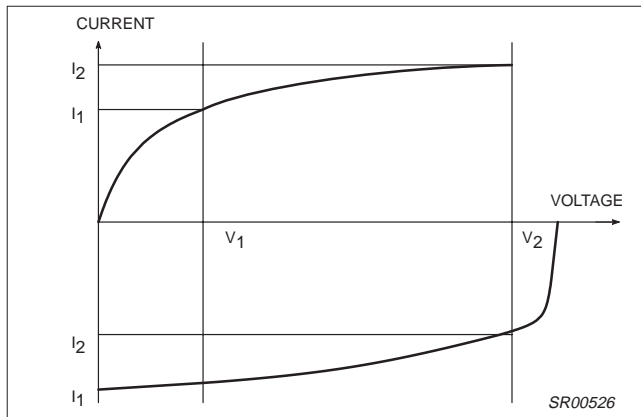

Figure 3. Relative Output Current Variation
- The relative output current variation is defined thus: $\frac{\Delta I_{OUT}}{I_{OUT}} = 2 \cdot \frac{(I_2 - I_1)}{(I_2 + I_1)}$; WITH $V_1 = 0.7V$, $V_2 = V_{CCCP} - 0.8V$ (see Figure 3).